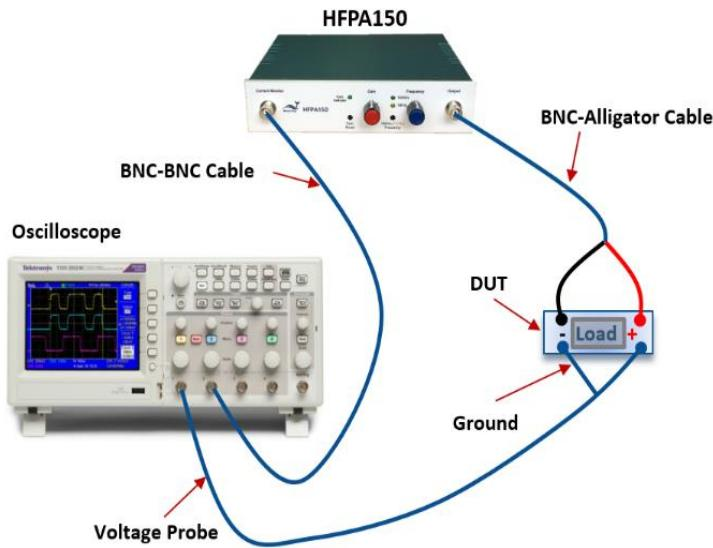

Figure 5. Test wiring diagram
2. Connect the "Output" port with the BNC-Alligator cord. Connect the other end of this cord to the analytes (DUT) and voltage probes connect with the oscilloscope CH1 (as shown in Figure 5)